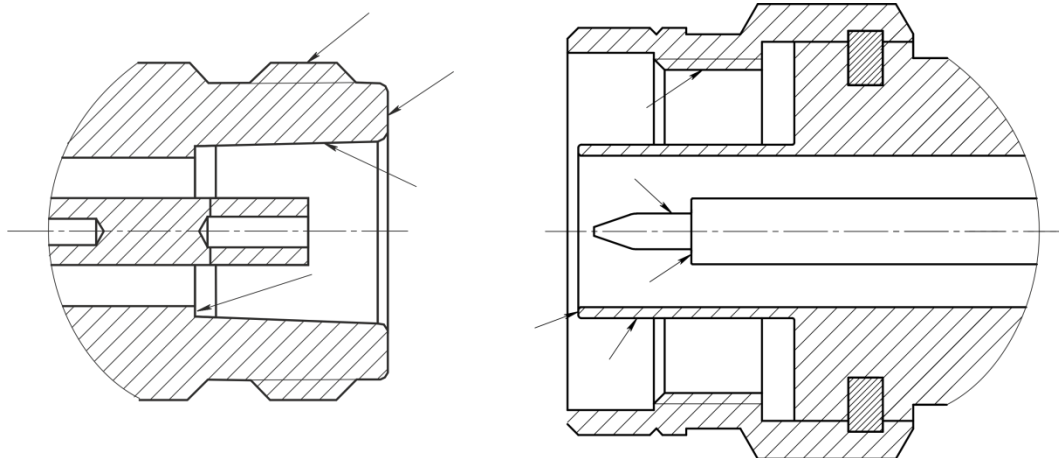

Figure 6.1 Type N connectors
- Wipe the connector surfaces as shown by arrows in figure 6.1 or 6.2 with a swab wetted in alcohol.